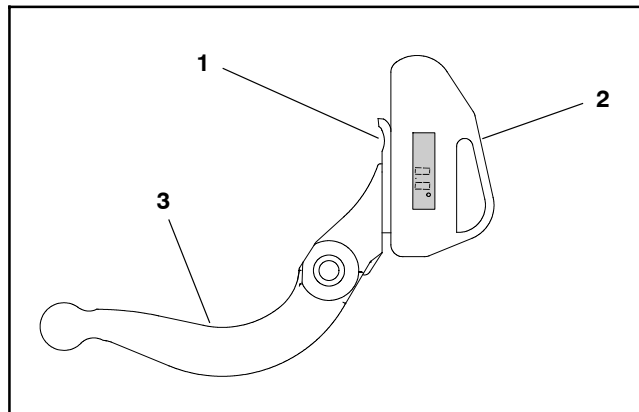

Figure 19
1. Place the angle indicator on the bottom side of the bedknife with the digital display facing you as shown (Fig. 19).